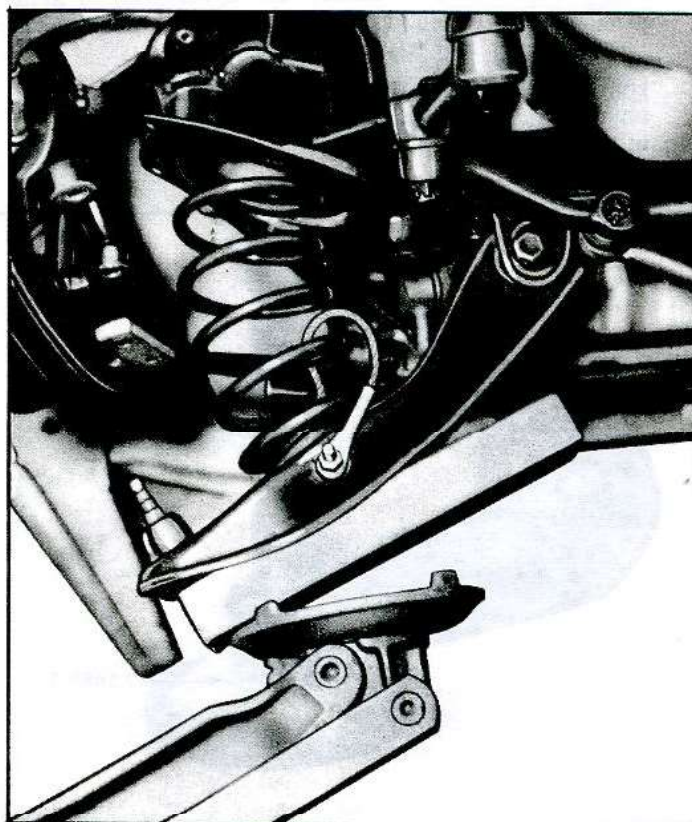

Fig. 3-21—Installing Coil Spring
28. Place spring up into spring tower, determine its proper positioning, and then rest its lower end on the lower control arm spring seat. Then install Cable J-4988 or a suitable length chain around the third coil of the spring and secure to one of the shock absorber bolt holes by means of a 1/2" nut and bolt. See Figure 3-21.